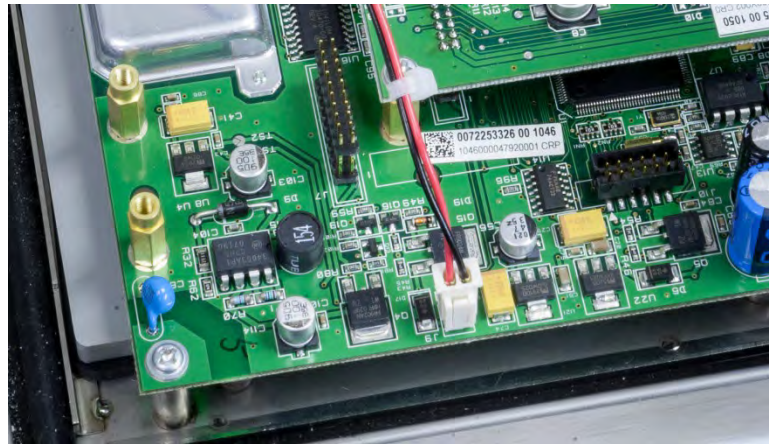

Figure 2-8: Battery Power Connector
3. Unplug the power connector from the main board (Figure 2-8).
7. Reconnect the battery power connector to the main board (Figure 2-8).